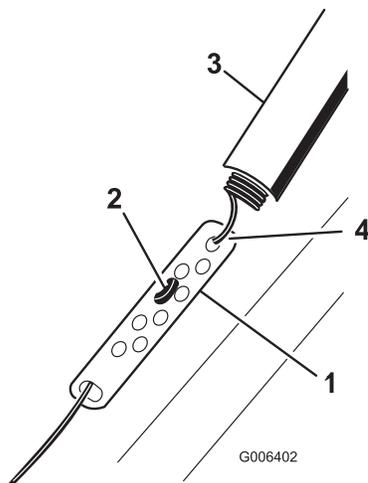

Figure 9
1. Slide up the spring cover and unhook the spring from the adjuster link (Figure 9).
2. Move the Z-fitting to a higher or lower hole on the adjuster link as needed to obtain the 2 mm to 3 mm (1/16-inch to 1/8-inch) gap between the control bar and the handle (Figure 9).